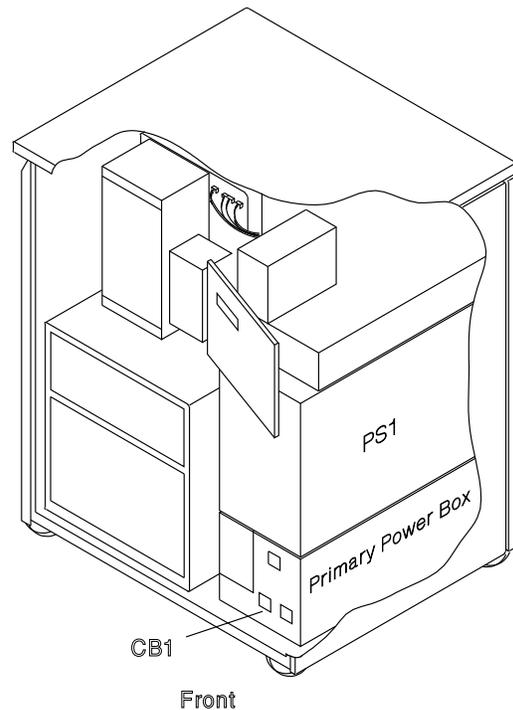

Figure 4-90. Power Supply 1 (PS1) and CB1 Locations
5. **Switch CB1 OFF.** Refer to Figure 4-90.
6. Locate the PS1 and Primary power box. Refer to Figure 4-90.